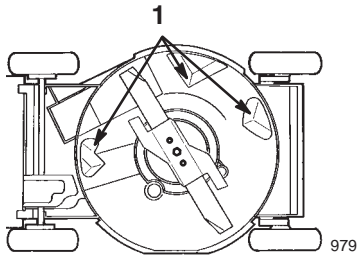

Figure 21
Keep the underside of the lawn mower housing clean. Be especially careful to keep the kickers free of debris (Fig. 21).
5. Tip the lawn mower onto its **left** side (Fig. 21).